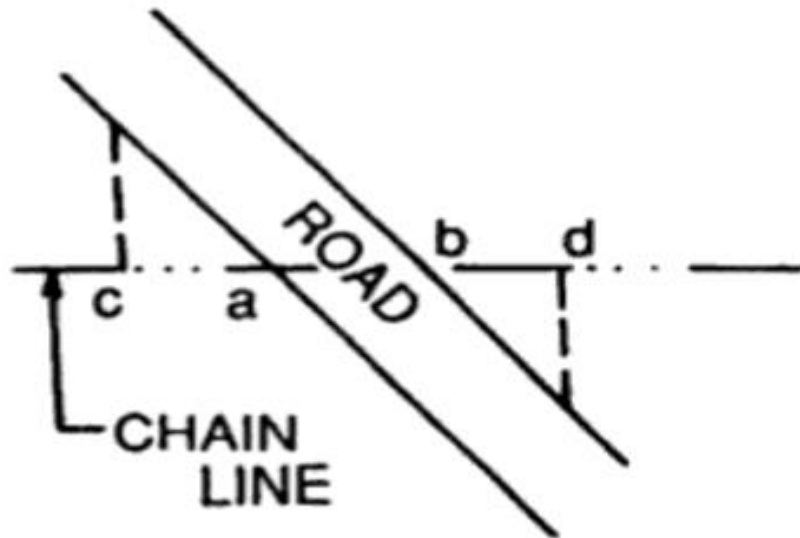

Fig. 2.12
- When a road crosses a chain line obliquely, the chainages of intersection points 'a' and 'b' are noted. Then at least one offset is taken on both sides of the intersection points. More offsets may be taken depending on the nature of the road. Here, perpendicular offsets are taken at 'c' and 'd' (Fig. 2.12).